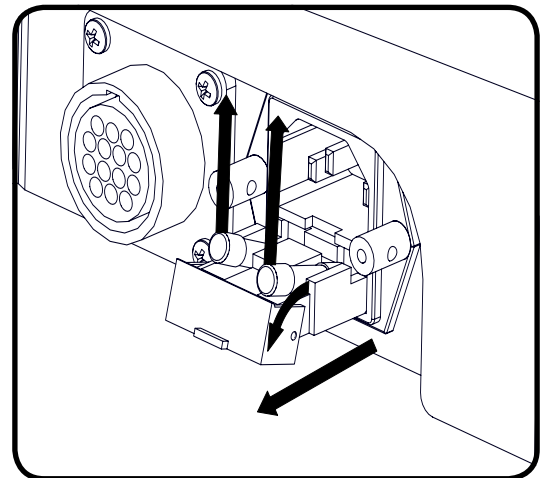

Figure 1
4. Insert new fuse(s) with same type of fuse removed in step 3. (See figure 1 below) See "SPECIFICATIONS" on page 21 for fuse type.